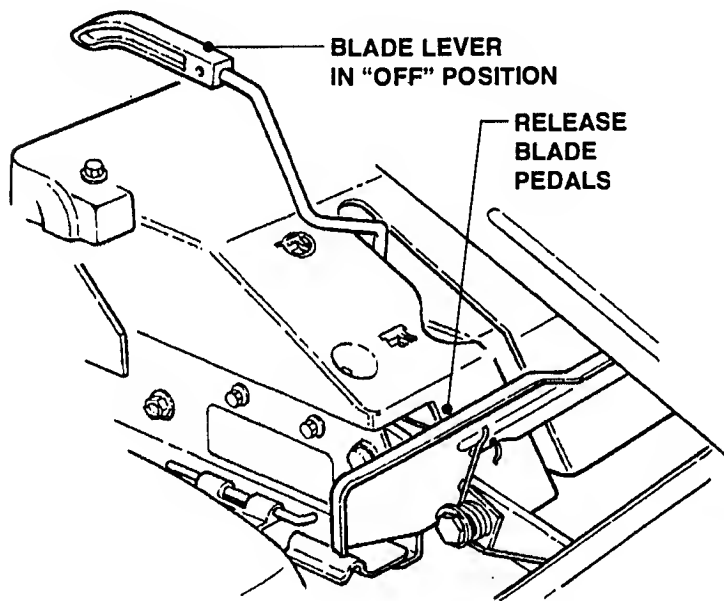
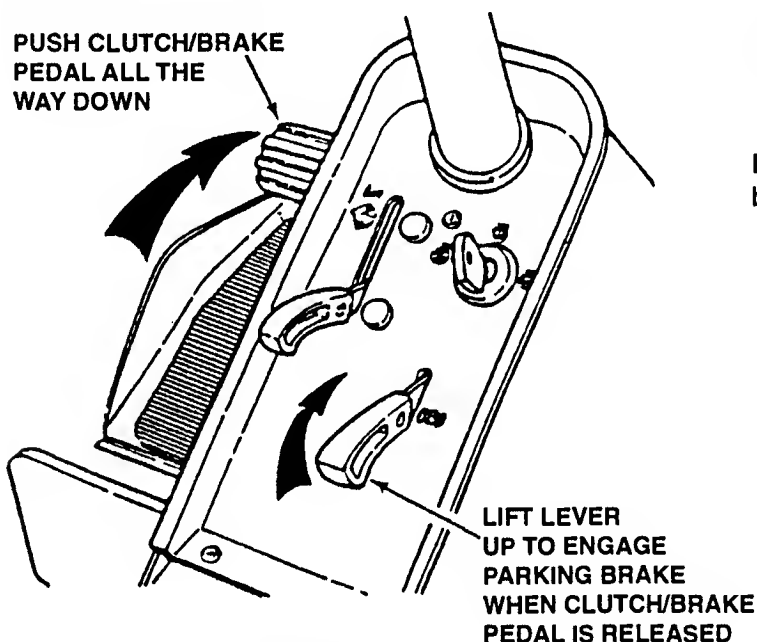

FIGURE 2.4
FIGURE 2.8
1. Move transmission shift lever to (N) Neutral position. **DO NOT** start engine with transmission shift lever in a drive position.
2. Make certain the Blade Lever is in the "OFF" position. See Figure 2.4.
IMPORTANT: When the ignition key is turned to "RUN", and the recoil handle is pulled, the engine will turn over, but will not start unless the Clutch/Brake Pedal is pressed all the way down with Parking Brake engaged (See Figure 2.8) and the Blade Lever is in the "OFF" position (Refer to Figure 2.4). Start engine as follows:
2. Make certain the Blade Lever is in the "OFF" position. Refer to Figure 2.4.
3. Press Clutch/Brake Pedal all the way down, lift Parking Brake Lever and release the Clutch/Brake Pedal to set Parking Brake. See Figure 2.8.